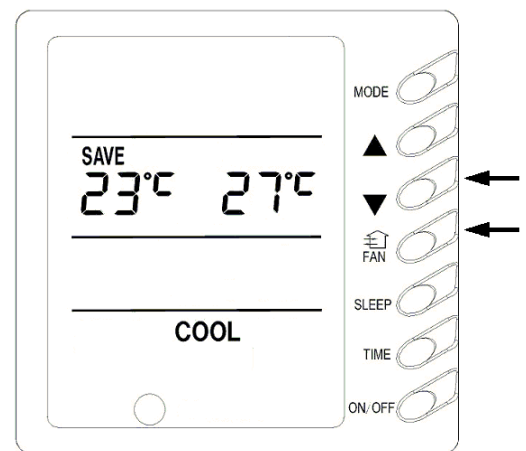

Fig.15
8) Energy saving setting (Fig.15)